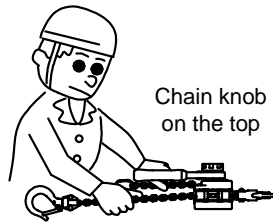
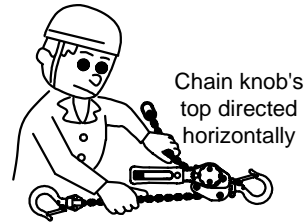

Figure 3.1
Figure 3.2
- Free chaining with the chain knob on the top as shown in Figure 3.1 may cause a braking force. In this case, direct the top of the knob towards the horizontal side as shown in Figure 3.2 in free-chaining.